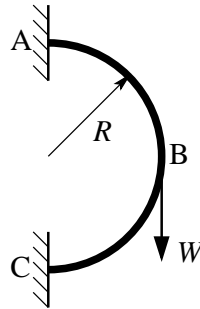

Figure 3
- * 3. The ring structure in Figure 3 is fully fixed to its foundation and is initially stress-free. It has a uniform bending stiffness, EI . An in-plane vertical load, W , is applied at B , as shown.